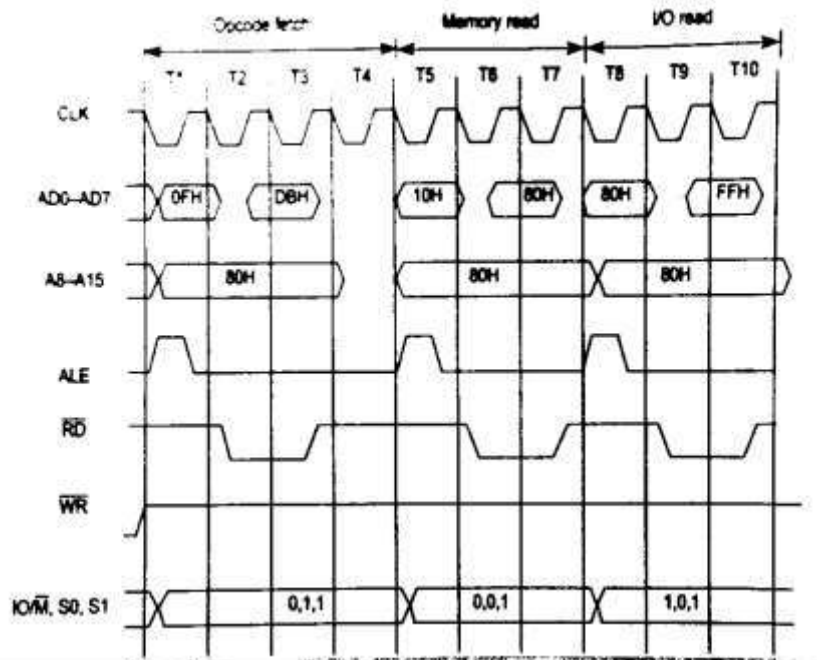

Fig. 12 Timing diagram for the IN instruction
- iii. During the third machine cycle, the address 80H is placed in the address bus and the data read from that port address is placed in the accumulator. The timing diagram is shown in Fig. 12.